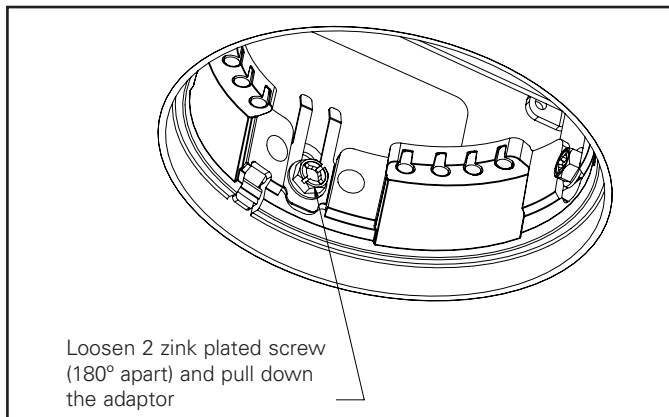

Figure 19.
4. Remove the adaptor from ceiling by loosening the 2 zinc plate hex screws (copper color) that attach the collar to the housing (see Fig. 19). Only loosen the screw; do not remove it from the assembly.
4. Remove the adaptor from ceiling by loosening the 2 zinc plate hex screws (copper colour) that attach the collar to the housing (see Fig. 19). Only loosen the screw; do not remove it from the assembly.